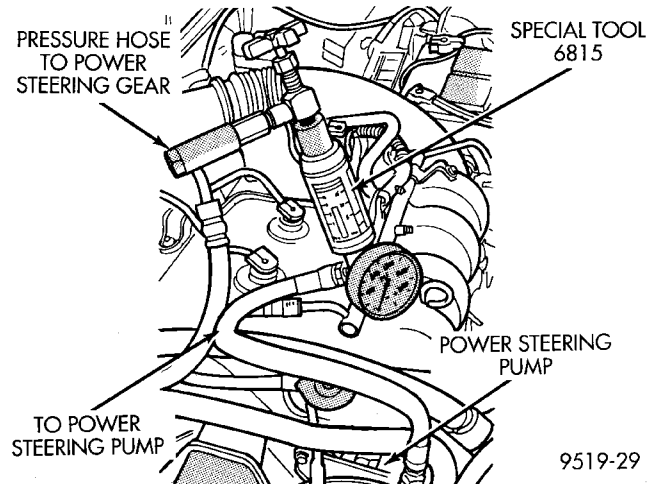

Fig. 3 Power Steering Pump Flow/Pressure Tester Connected To Power Steering Pump
- (1) Check power steering pump drive belt tension and adjust as necessary.
- (2) Disconnect power steering fluid pressure hose, at power steering pump. Use a container for dripping fluid.
- (3) Connect Pressure Gauge, Special Tool from kit 6815 (Fig. 3) to both hoses using adapter fittings. Connect spare pressure hose, to power steering pump pressure hose banjo fitting.
- (4) Completely open valve on Special Tool 6815 (Fig. 3).
- (5) Start engine and let idle long enough to circulate power steering fluid through flow/pressure test and get air out of fluid. Then shut off engine.
- (6) Check power steering fluid level, and add fluid as necessary. Start engine again and let idle.
- (7) Pressure gauge should read below 862 kPa (125 psi), if above, inspect the hoses for restrictions